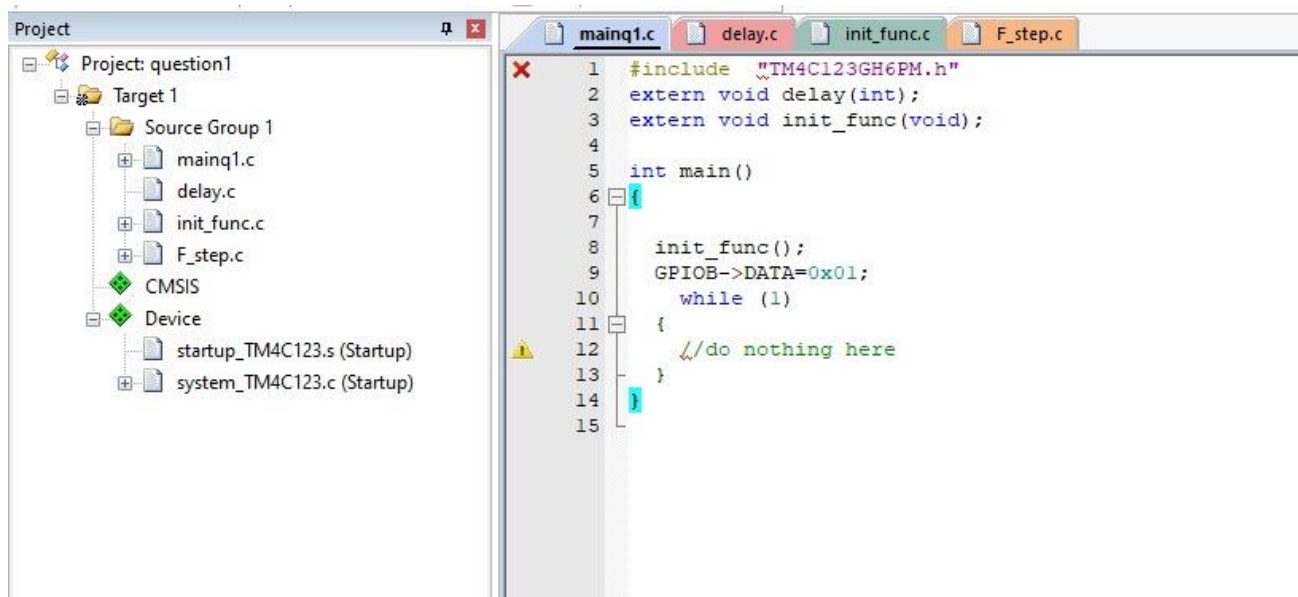

Figure 1: Main function for part1
- We use main function just call the subroutines and we give GPIO_B DATA as 0x01 to try if our function is work or not. It can be seen in figure 1